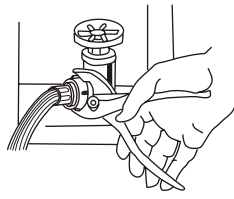
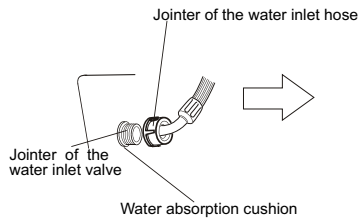

Figure 1
Figure 2
<p>Clean the detergent box and set it on the control panel seat.</p> <p>1.The method of dismantle:Push it up aslant and gently.</p> <p>2.The method of install : install it upwards and aslant and push it in .</p>  <p>Dismantle                      Install</p>	<ul style="list-style-type: none"> <li>• The lint filter must be used during washing.</li> <li>• It must be cleaned in time after each using.</li> </ul> <p>Lint filter:</p> <ol style="list-style-type: none"> <li>1.Push down the spring piece of the top lint filter to make the claws out of the filter cover, and then pull out the lint filter to get it down. (figure1)</li> <li>2.Pull the back of the lint filter, and then you can get down it off the front cover of the lint filter. (figure2)</li> <li>3.Sweep the rubbish in the lint filter.</li> <li>4.Put the back of the lint filter into the front cover .</li> <li>5.Put the lint filter into filter cover, and make it tight .</li> <li>6.Make sure the lint filter well installed, or it can influence your use.</li> </ol>  <p>Figure 1                      Figure 2</p>
1. Attach the water inlet hoses to the water faucet. Using pliers, tighten the coupling. (As figure 1)
2. Connect the other ends to the water inlet valve. (As figure 2)